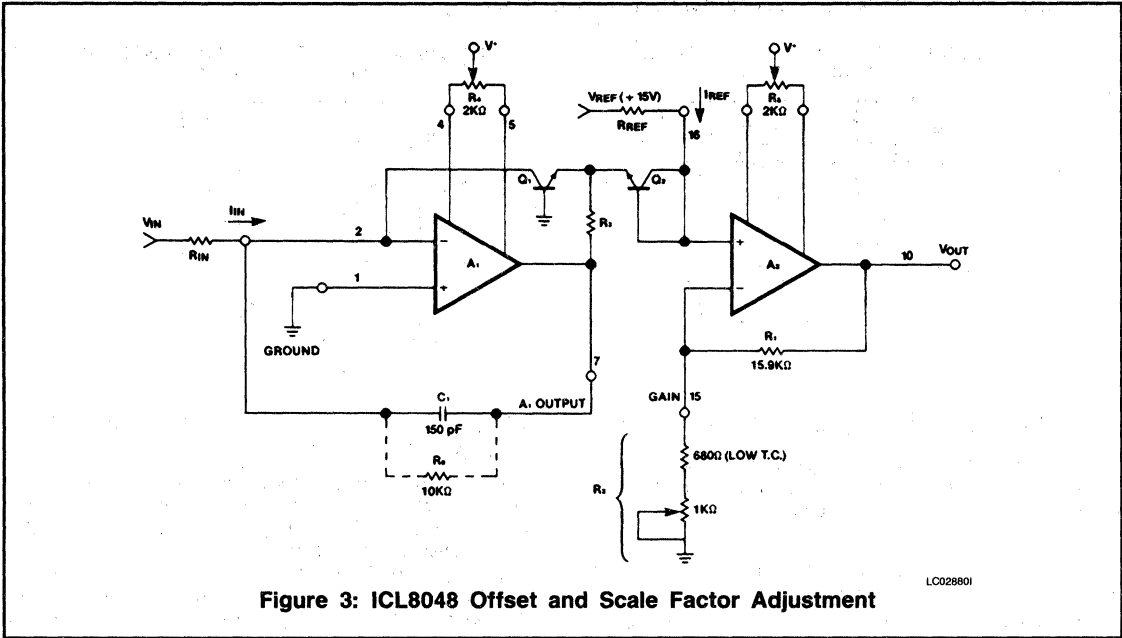
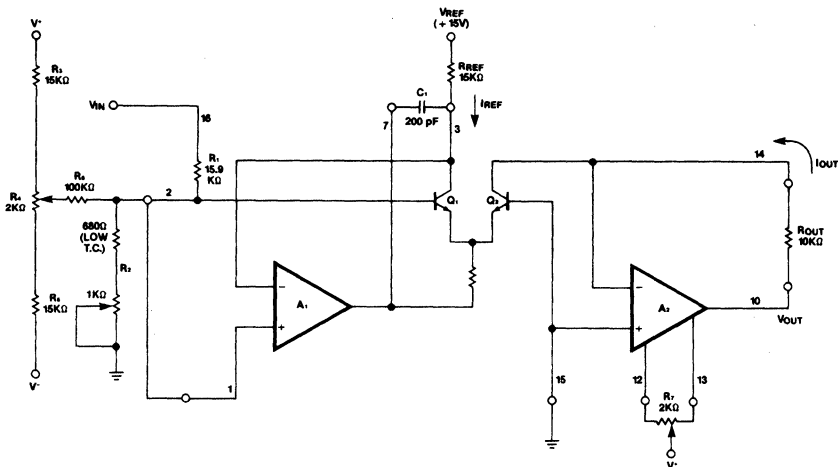
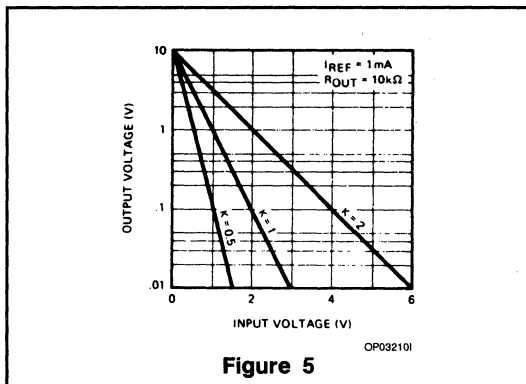
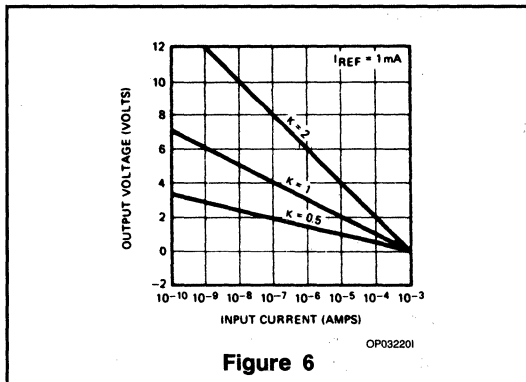

Figure 3: ICL8048 Offset and Scale Factor Adjustment
Figure 4: ICL8049 Offset and Scale Factor Adjustment
Figure 5
Figure 6
Referring to Figure 3, it is clear that the potential at the collector of  $Q_2$  is equal to the  $\Delta V_{BE}$  between  $Q_1$  and  $Q_2$ . The output voltage is  $\Delta V_{BE}$  multiplied by the gain of  $A_2$ :
A log amp, unlike an op-amp, cannot be offset adjusted by simply grounding the input. This is because the log of zero approaches minus infinity; reducing the input current to zero starves  $Q_1$  of collector current and opens the feedback loop around  $A_1$ . Instead, it is necessary to zero the offset voltage of  $A_1$  and  $A_2$  separately, and then to adjust the scale factor. Referring to Figure 3, this is done as follows:
The ICL8049 relies on the same logarithmic properties of the transistor as the ICL8048. The input voltage forces a specific  $\Delta V_{BE}$  between  $Q_1$  and  $Q_2$  (Figure 4). This  $V_{BE}$  difference is converted into a difference of collector currents by the transistor pair. The equation governing the behavior of the transistor pair is derived from (2) on the previous page and is as follows:
As with the log amplifier, the antilog amplifier requires three adjustments. The first step is to null out the offset voltage of  $A_2$ . This is accomplished by reverse biasing the base-emitter of  $Q_2$ .  $A_2$  then operates as a unity gain buffer with a grounded input. The second step forces  $V_{IN} = 0$ ; the output is adjusted for  $V_{OUT} = 10V$ . This step essentially "anchors" one point on the transfer function. The third step applies a specific input and adjusts the output to the correct voltage. This sets the scale factor. Referring to Figure 4, the exact procedure for 1 decade/volt is as follows:
By adjusting  $R_2$  (Figure 3 and Figure 4) the scale factor "K" in equation 9 and 10 can be varied. The effect of changing K is shown graphically in Figure 5 for the log amp, and Figure 6 for the antilog amp. The nominal value of  $R_2$  required to give a specific value of K can be determined from equation 11. It should be remembered that  $R_1$  has a  $\pm 20\%$  tolerance in absolute value, so that allowance shall be made for adjusting the nominal value of  $R_2$  by  $\pm 20\%$ .
Although the op-amps in both the ICL8048 and the ICL8049 are compensated for unity gain, some additional frequency compensation is required. This is because the log transistors in the feedback loop add to the loop gain. In the 8048, 150 pF should be connected between Pins 2 and 7 (Figure 3). In the 8049, 200 pF between Pins 3 and 7 is recommended (Figure 4).